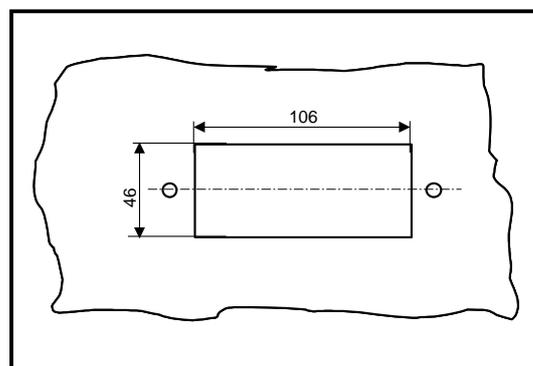

Fig. 3.13 – Preparing the panel
2. knock out a 46x106 mm opening on the front panel of the electric board and drill two holes on the sides for the tie-rods to pass through (line them up with the DIN rail holes (Fig. 3.13)